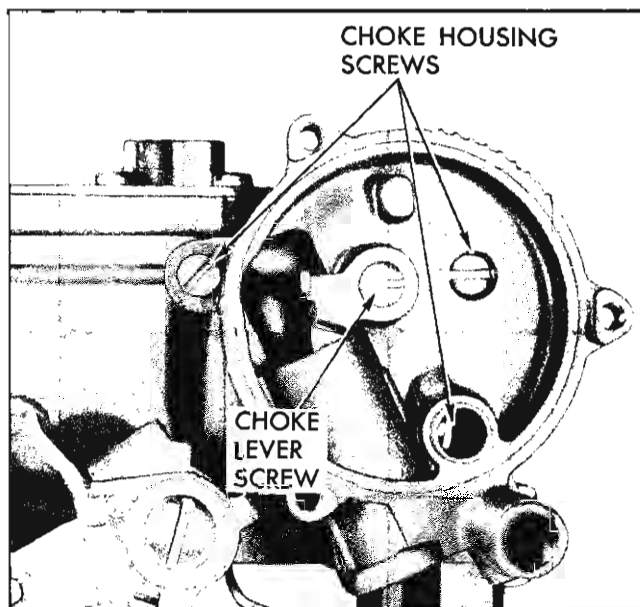

Fig. 6B-75 Location of Choke Housing Screws
3. Remove choke lever attaching screw. (Fig. 6B-75). Remove choke piston, lever and link assembly by rotating piston from bore.
4. Remove three choke housing to body attaching screws (Fig. 6B-75) and remove choke housing and gasket.
6. Remove pump jet cluster and gasket. (Fig. 6B-76).
7. Remove two screws and primary venturi and gasket on pump side (Fig. 6B-76).